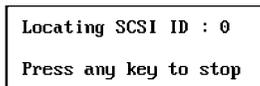

Figure 3-17. Locating the Device
1. To locate a device, highlight *Locate Device* and press <Enter>. The locating message is displayed (see Figure 3-17) while the LED on the device blinks.